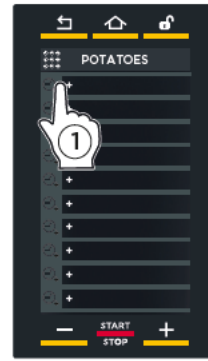

fig. M8
- 1 Tap the "+" symbol on the screen (fig. M8).